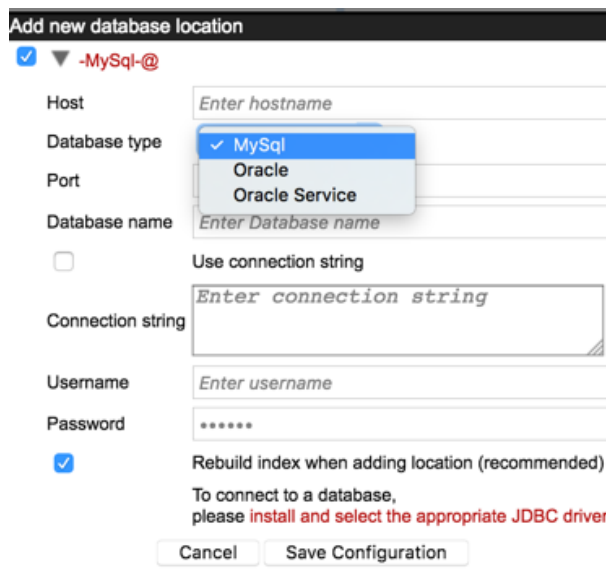

Figure 3.2: Adding a new database location. Here, two drivers are available to the CLC Server, a MySQL driver and an Oracle driver.
- Under the **Database locations** heading, click the **Add New Database Location** button. This pops a window like that shown in figure 3.2.
If an Oracle database driver is available to the CLC Server, two items will be presented in the Database type drop down list, as shown in figure 3.2. The one shown as "Oracle" is the traditional one, which uses the SID style (e.g. `jdbc:oracle:thin:@[HOST][:PORT]:SID`). The other, "Oracle Service", uses the thin-style service name (e.g. `jdbc:oracle:thin:@//[HOST][:PORT]/SERVICE`).